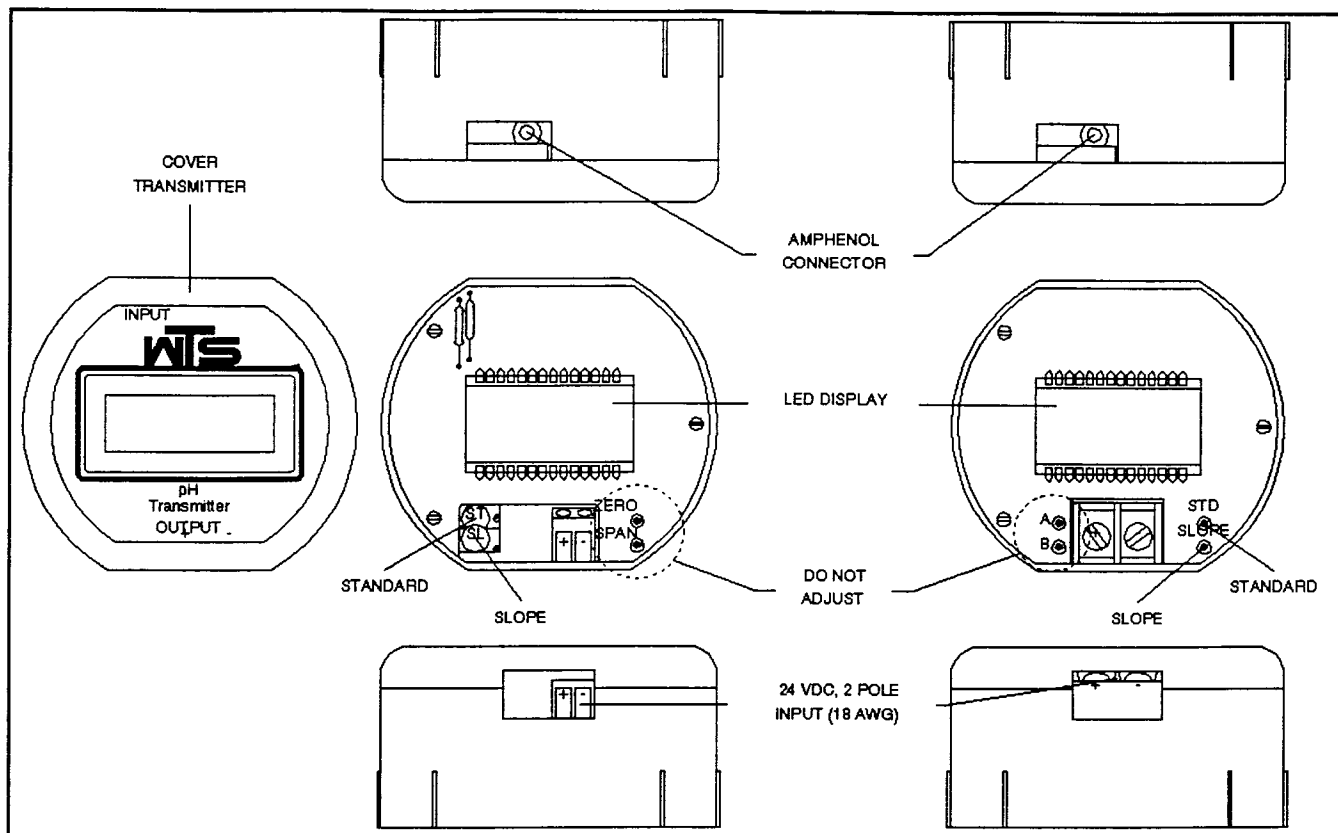

Figure 1
7. Locate the STANDARD adjustment screw (note transmitter configuration), located on the transmitter as indicated in figure 1, and turn it slowly until the digital display reads 4.0. Turn the screw clockwise to increase the reading and counter clockwise to decrease the reading.
10. Locate the SLOPE adjustment screw (note transmitter configuration), located on the transmitter as indicated in figure 1, and turn it slowly until the digital display reads 10.0. Turn the screw clockwise to increase the reading and counter clockwise to decrease the reading.